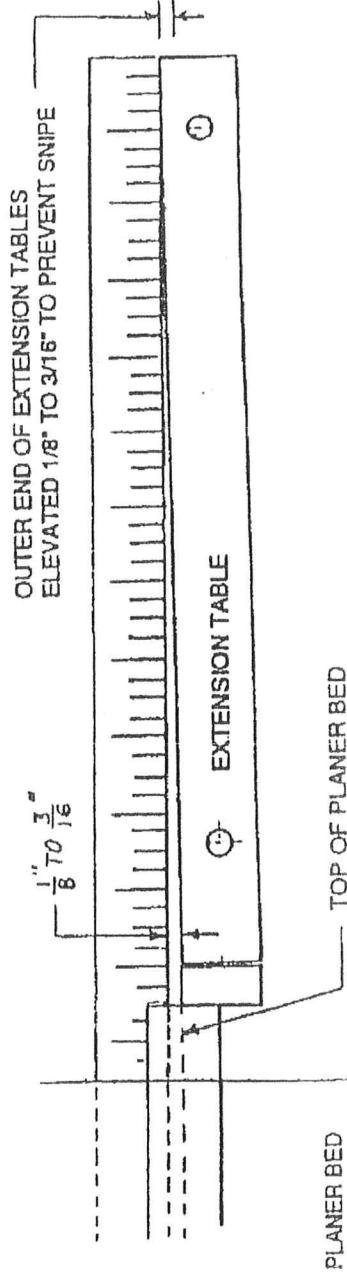

Fig. A-2
3. Snug the bolts (just enough to hold the extension table in place). Adjust the extension table even with the top of the planer bed by tapping it up or down (see fig. A-2). If it will not move, loosen the bolts until it will.
5. The outer ends of the extension tables should be elevated 1/8 in. to 3/16 in. to reduce snipe. Lay a straight edge across the planer bed and extension table then screw the set screws in to elevate the end of the extension table. Measure the gap between the straight edge and the planer bed where the extension tables meet the planer bed (see fig. A-2).